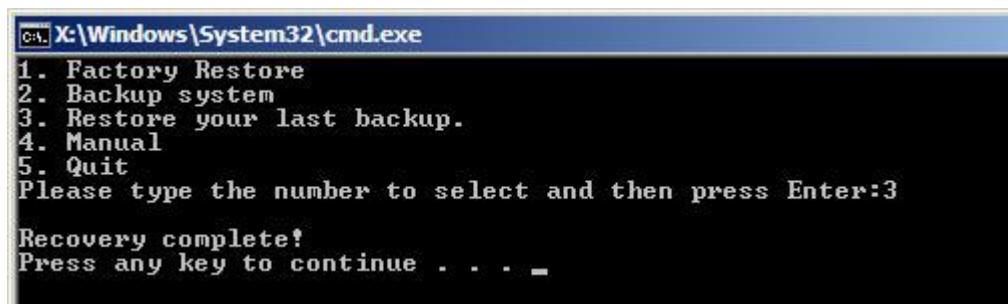

Figure B-41: Restore System Backup Complete Window
Step 3: The screen shown in **Figure B-41** appears when backup recovery is complete.